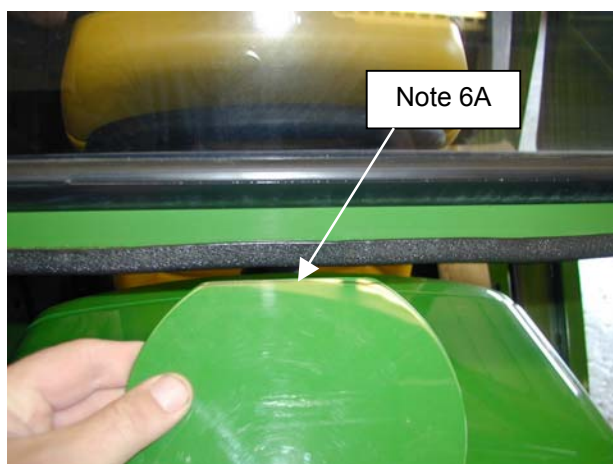

Figure 6A
- A. Since the 4110 hood slightly differs from the 4100 and 4115, the fuel cap lid needs to be modified. Remove 3/4" from the end of the fuel cap lid as shown in Figure 6A.